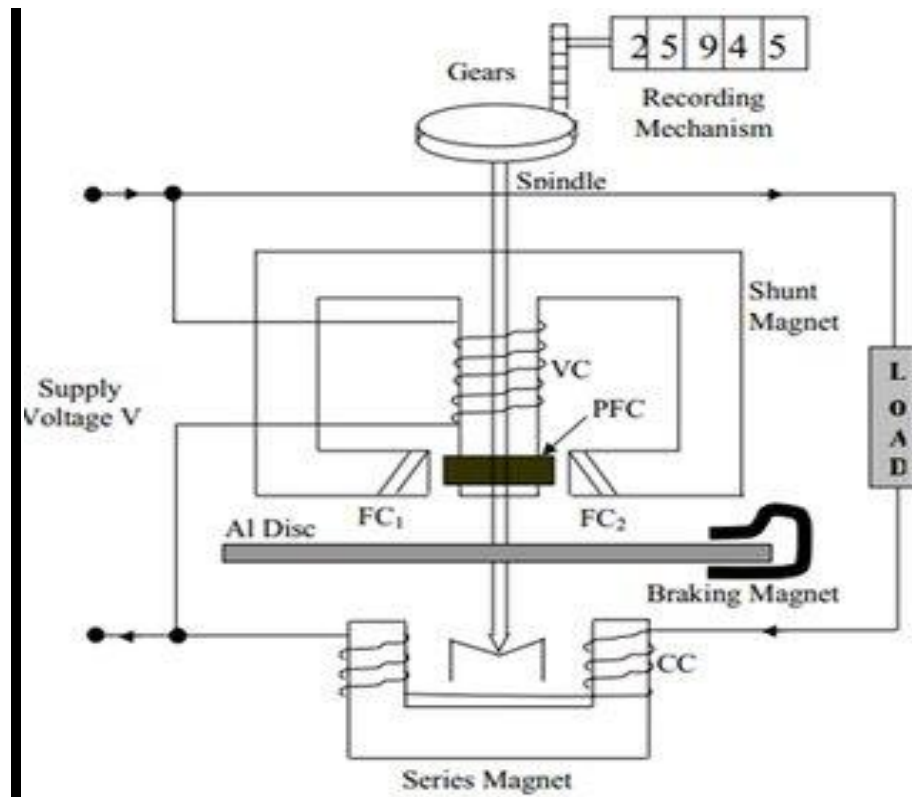

Fig.1
Driving system: - This system of the energy meter consists of two silicon steel laminated electromagnets. M1 & M2 as shown in fig.1 The electromagnet M1 is called the series magnet and the electromagnet M2 is called the shunt magnet. The series magnet M1 carries a coil consisting of a few turns of thick wire. This coil is called the current coil (CC) and it is connected in series with the circuit. The load current flows through this coil. The shunt magnet M2 carries a coil consisting many turns of thin wire. This coil is called the voltage coil (VC) and is connected across the supply it consist of current proportional to the supply voltage. Short circuited copper bands are provided on the lower part of the central limb of the hunt magnet.